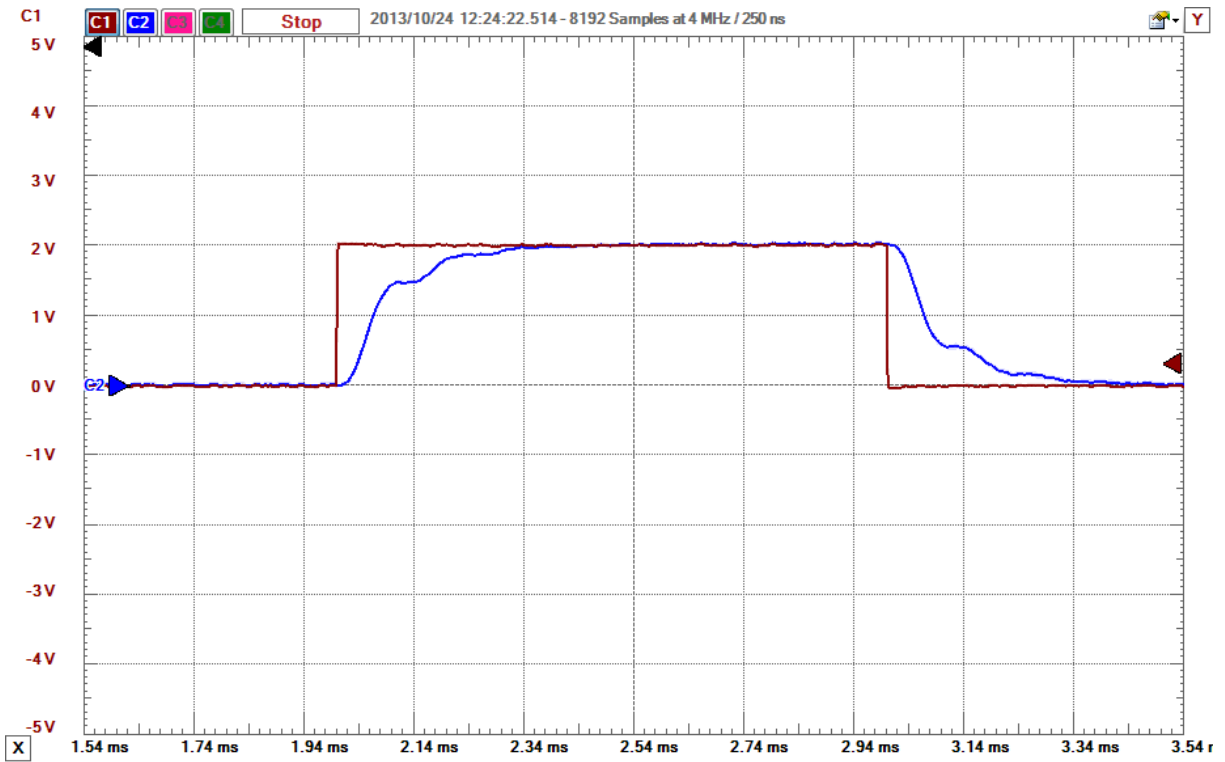

Figure 17. Closed loop step response of our second order system with no overshoot.
- 5) Connect your system, or plant, to the feedback network and try to adjust the system so there is no overshoot and the settling time is less than approximately  $0.4\text{ ms}$ , as shown in Figure 17. You may have to adjust the time scale and frequency of the signal generator to get a good picture. Be sure your system has reached steady state (it's flat on the top!) *Include a screen shot of this in your memo.* Note that in this case, we cannot speed up the response of the system if our goal is to reduce the overshoot.